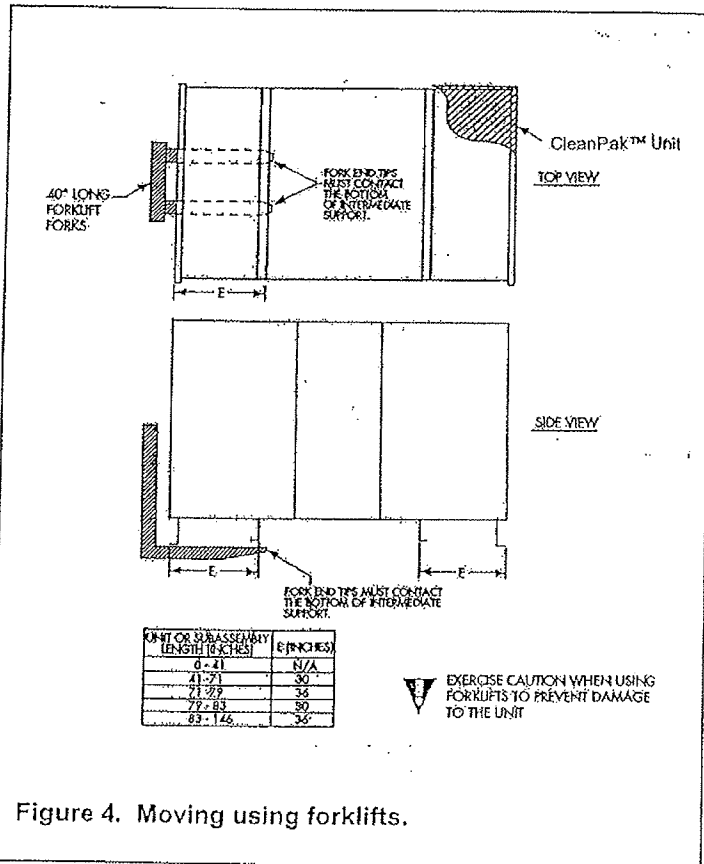

Figure 4. Moving using forklifts.
- G. It may be possible to tow units with 40" forklift forks, providing the end tips of the forks contact the bottom of the intermediate supports of the base rail. A forklift may be used for lifting single sections or small subassemblies, providing the forks support both ends of the base rail. (See Figure 4 for towing base rail units and subassembly guidelines.) Exercise caution when using forklifts to prevent damage to the unit.